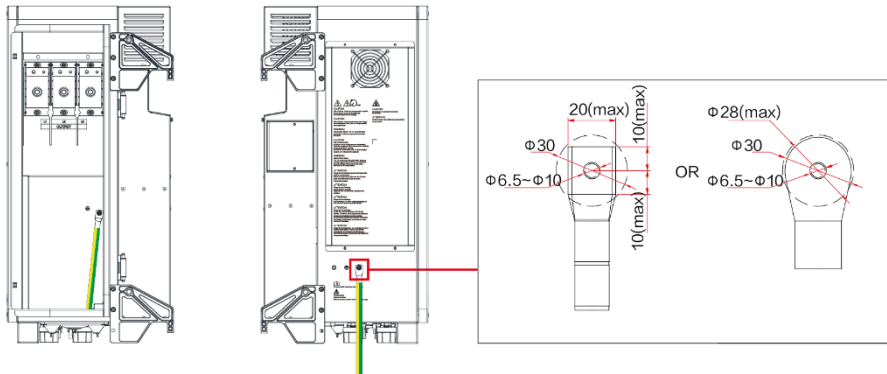

Figure 4-5 Grounding Methods
- Internal grounding: connect PE wire to internal grounding hole located on the lower right side of the AC terminal, as shown in Figure 4-5 on the left (refer to section 4.4.2).
- External grounding: connect PE cable to external PE point located at the bottom of the machine next to the AC port, as shown in Figure 4-5 on the right. **Note:** After wiring, external grounding position needs to be coated with glue or paint, to improve corrosion resistance.